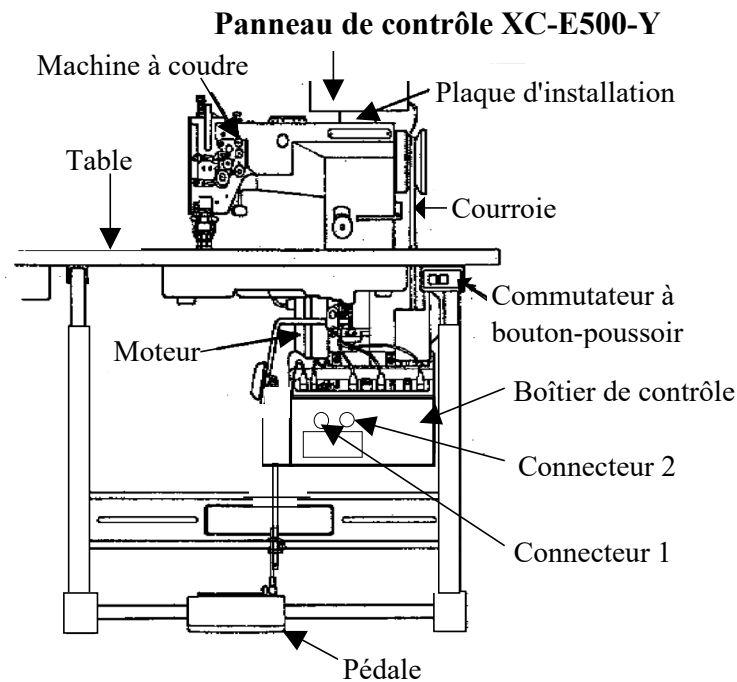

Figure 1
2. PROCEDURE D'INSTALLATION (Voir Figure 1)